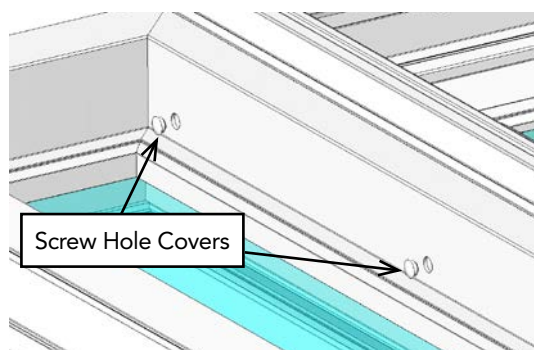

Figure 26
29. Install screw hole covers into the 3/8" mulling screw holes in the sidelite or transom frame (**Figure 26**). If a sidelite was mullled to the operating side of the door, install hole covers into the mulling screw holes in that side jamb as well. **Do not install covers on the head of the door when mulling a transom as it will interfere with the head insert.**